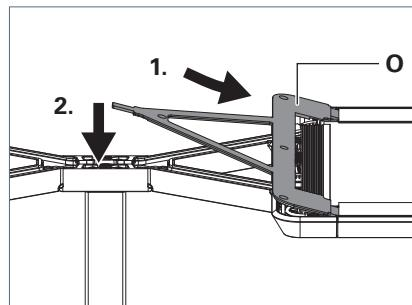

Fig. 19: Fitting the cover.
- ▶ Set the cover **O** with the three tabs on the underside of the cover into the recesses on the luminaire head and press the cover firmly, see Fig. 19.